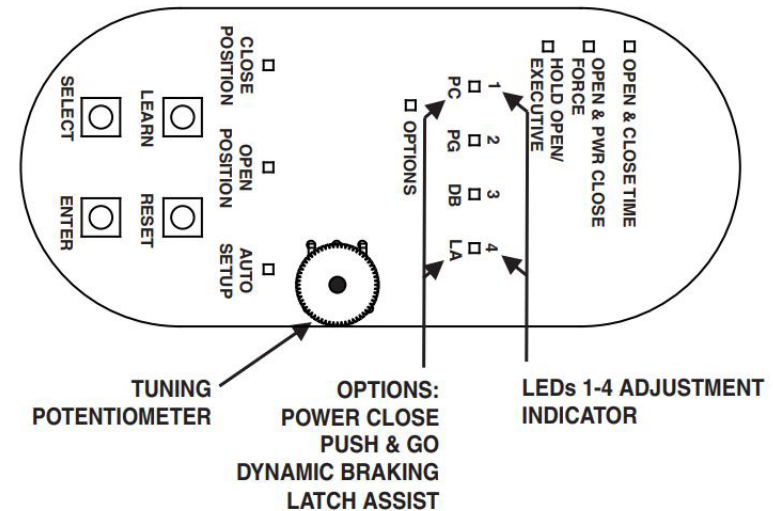

Figure 12
1. Refer to Figure 12 and, at the base of the setup board, PRESS and HOLD both "SELECT" and "ENTER" pushbuttons until LEDs 1 through 4 flash. The following shall occur: